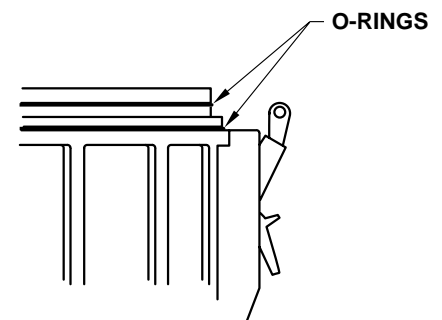

Fig. 5
8. To install the larger diameter body seal o-ring onto the lower sealing surface of the main housing, lay one side of the o-ring in place and hold secure while gently stretching the rest of the o-ring over the main housing and onto the sealing surface (Fig. 5).